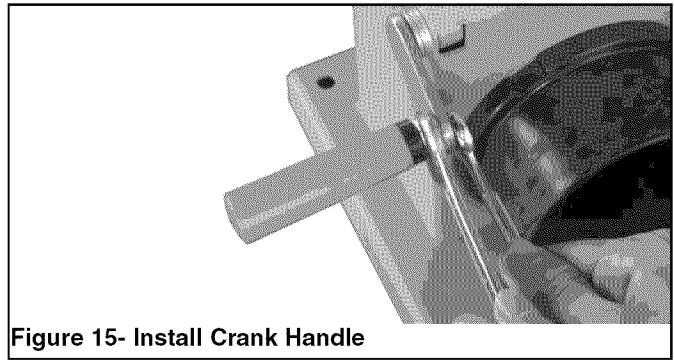

Figure 15- Install Crank Handle
- Attach the crank handle to the belt tension crank arm with the M6 hex nut (see Figure 15).